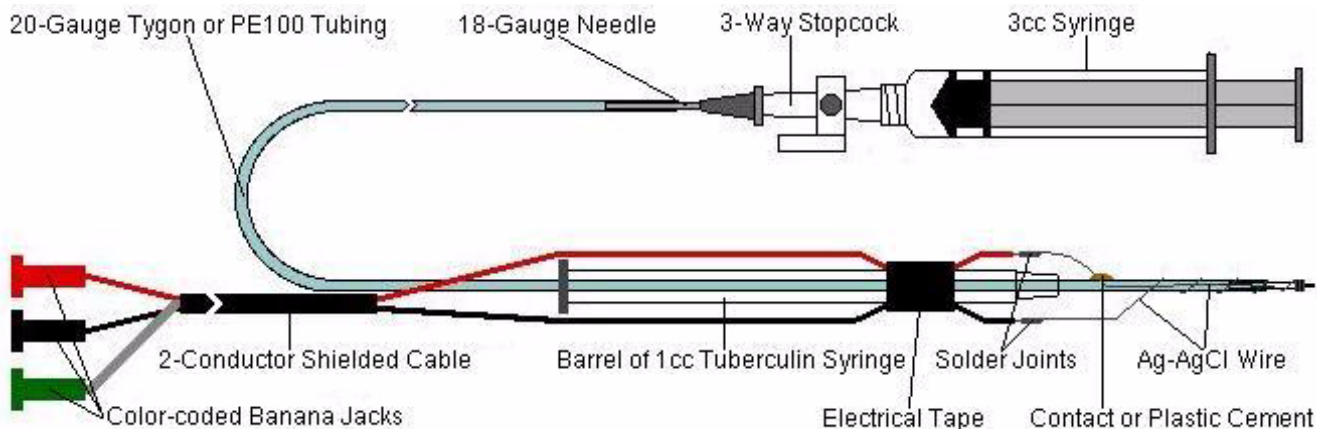

Figure NB-7-9: Typical suction electrode assembly.
- 1 Obtain the following items to make your own suction electrode (Figure NB-7-9 on page NB-7-9): a soldering iron; solder; a wire stripper; a wooden-handled dissecting pin; an alcohol burner; a can or tube of contact or plastic cement; a fine flat file; emery cloth; electrical tape; a popsicle stick; two pieces of chlorided silver wire (0.005" dia, 5" long); three feet of shielded, two-conductor, insulated cable; three color-coded connectors that will mate to the connectors on the input cable for the amplifier; three feet of flexible plastic tubing (20 gauge Tygon or PE 100); an 18-gauge needle, a 3-way stop cock, a 3cc syringe, a 1cc tuberculin syringe; glass micropipette tip.